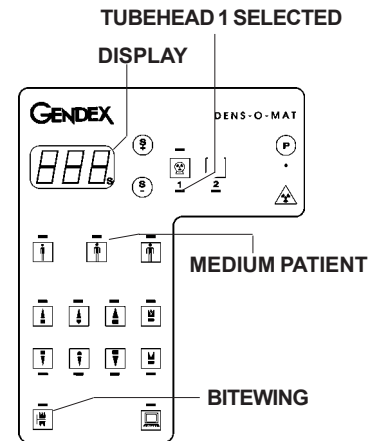

Figure 1
- 2) Switch on the Densomat by pressing the LINE ON switch; verify that the LEDs light ON, as shown by figure 1.